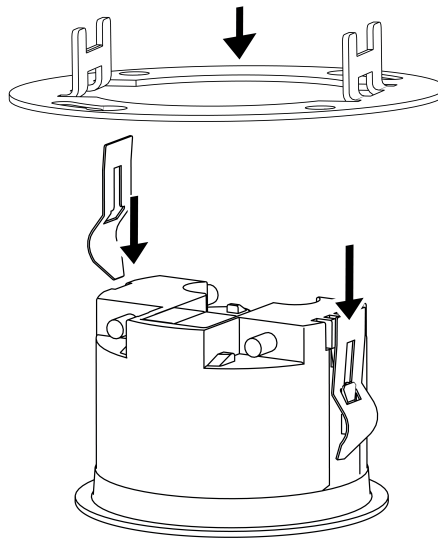

Figure 9
- Remove spring clamp (3).
- Push clamping springs (13) in the right orientation on the guides (2) from behind until they snap into place (figure 9).